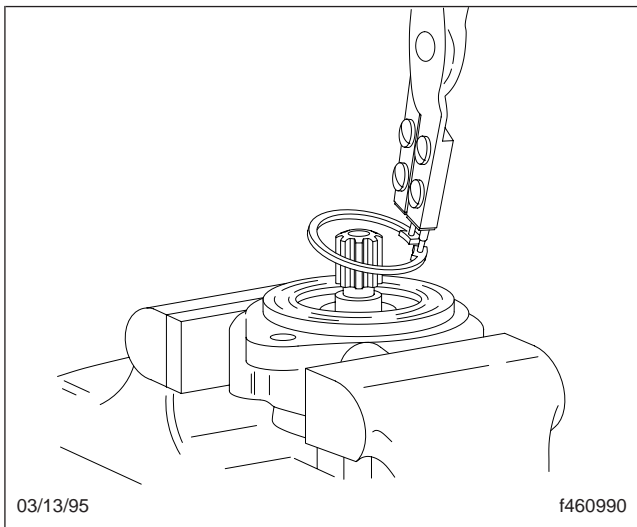

Fig. 14, Removing the Large Retaining Ring
13. Turn the cover over and remove the large retaining ring. See Fig. 14.